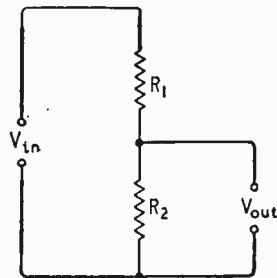

Fig. 1. Simple resistive potential divider.
**T**HE simple potential divider, consisting of two resistors in series (Fig. 1), is frequently used in electronic equipment to adjust the level of an incoming signal; for instance, it is used as the input attenuator in many cathode-ray oscilloscopes. In many cases the divider consists of high-stability close-tolerance resistors, the accuracy of the step-down being dependent on the accuracy of the resistors.